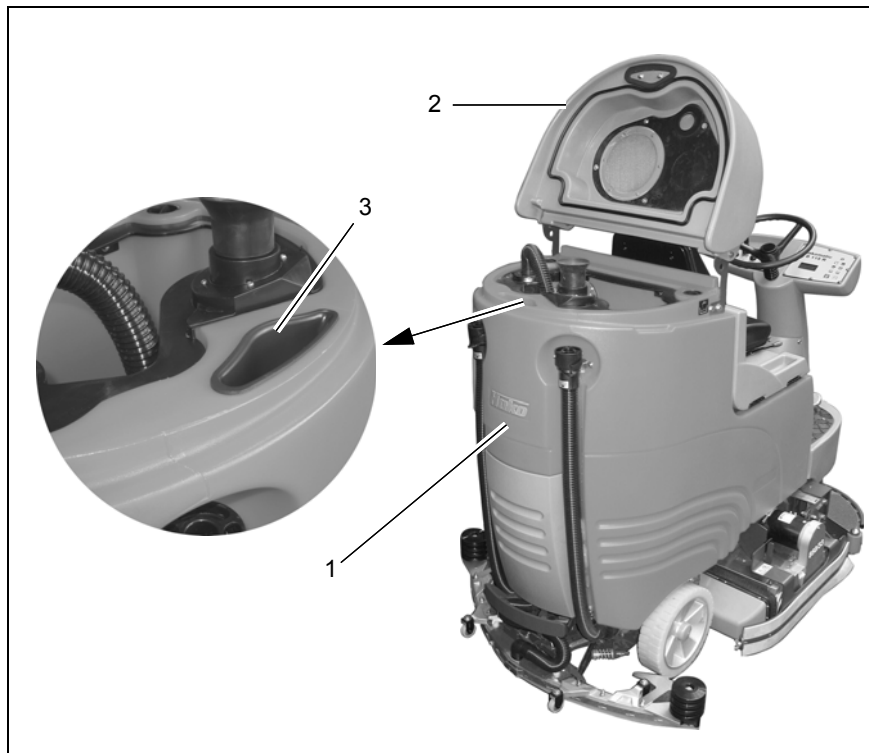

Fig. 10
1. Fill the clean water tank (Fig. 10/1) before starting work or as necessary. Park the vehicle on a level floor area.
2. Open the tank cap (Fig. 10/2) and fill the clean water tank through the opening (Fig. 10/3) (max. temperature 50°C).